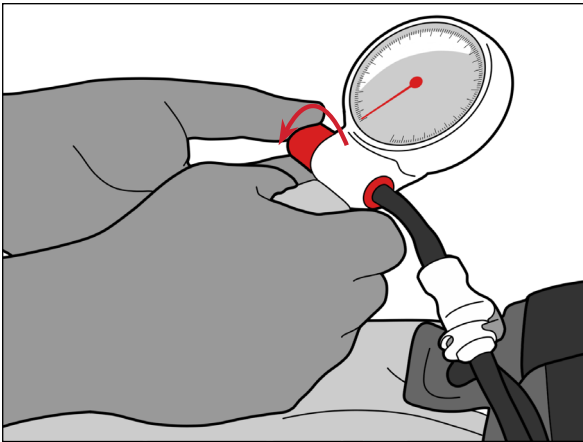

Fig. 8
1. First close the valve by rotating the knob towards you (Fig. 8).